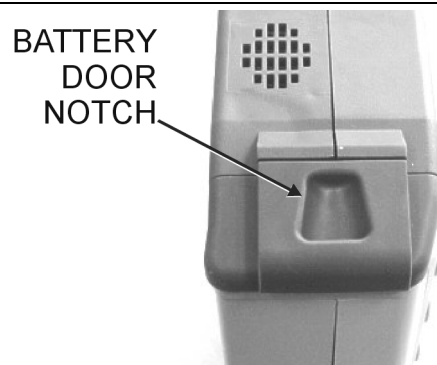

Figure 7. Battery Access Door Notch
2. Place a finger in the battery access door notch and push the door down towards the bottom of the instrument, as illustrated in Figure 7.